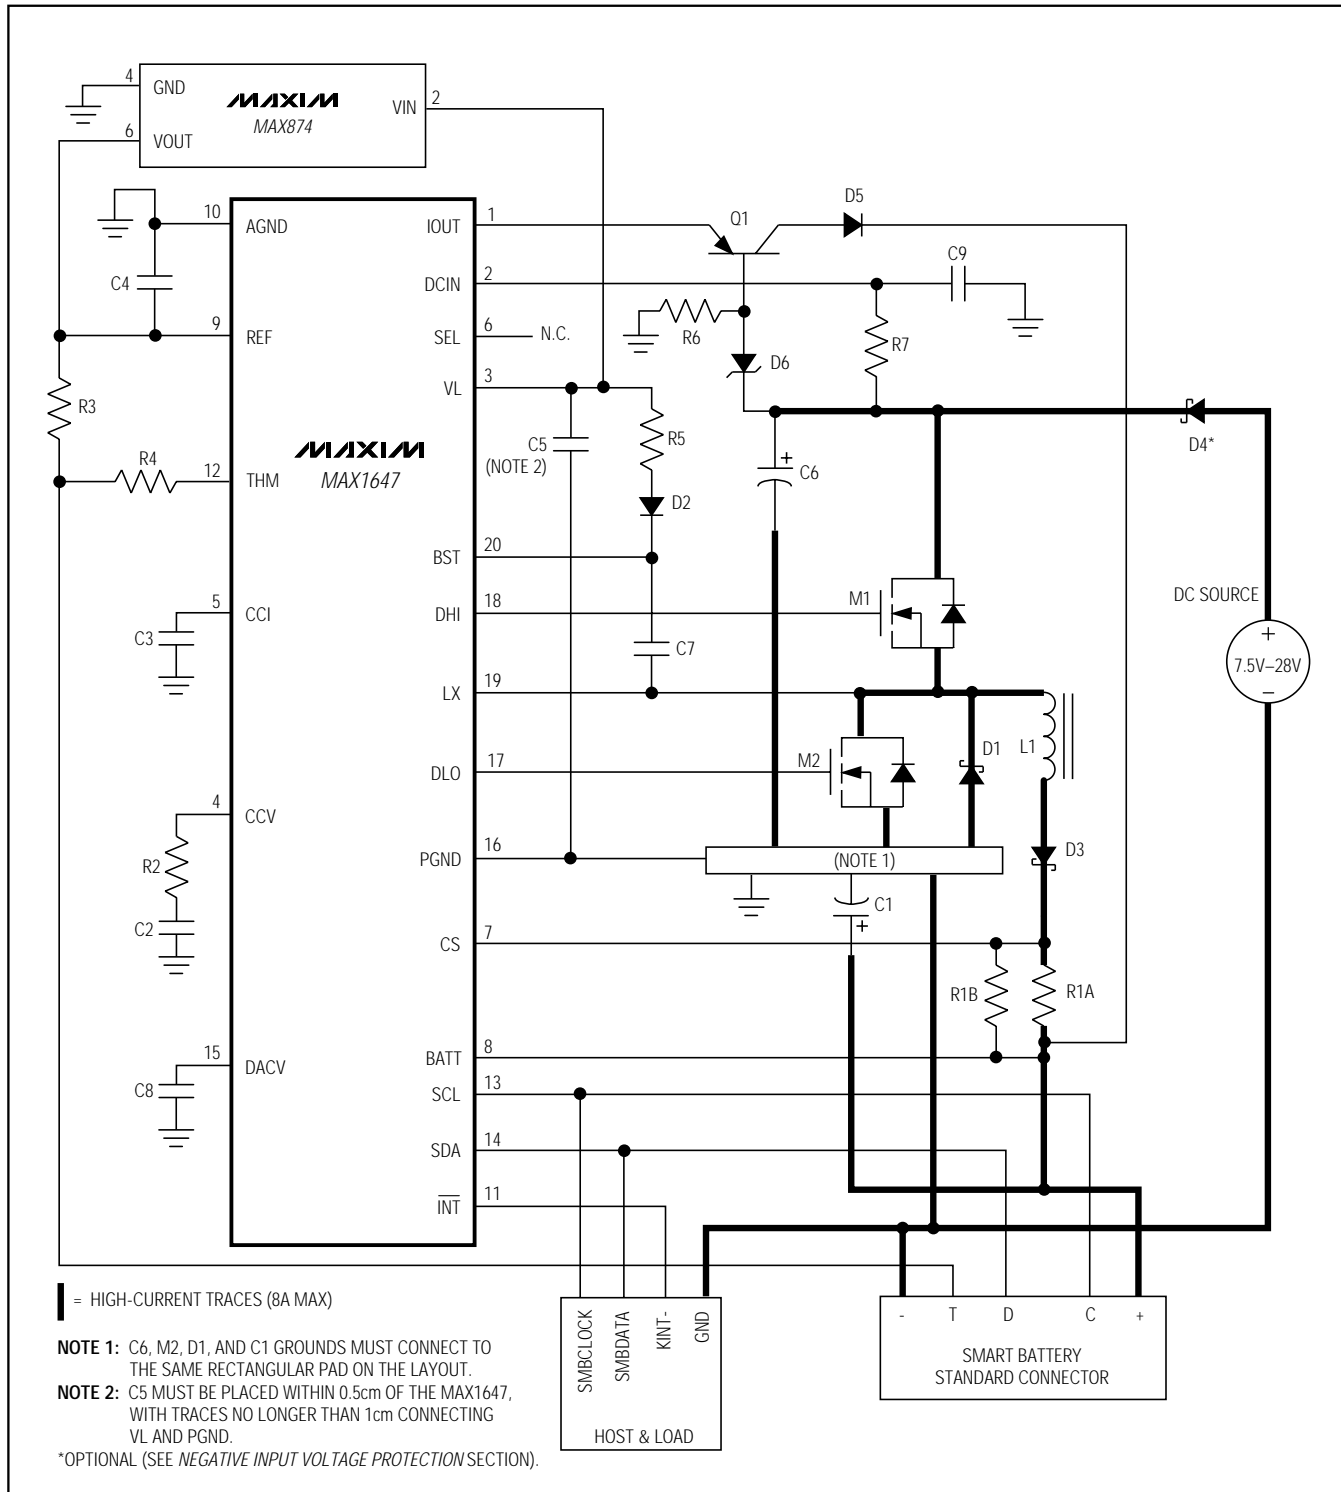
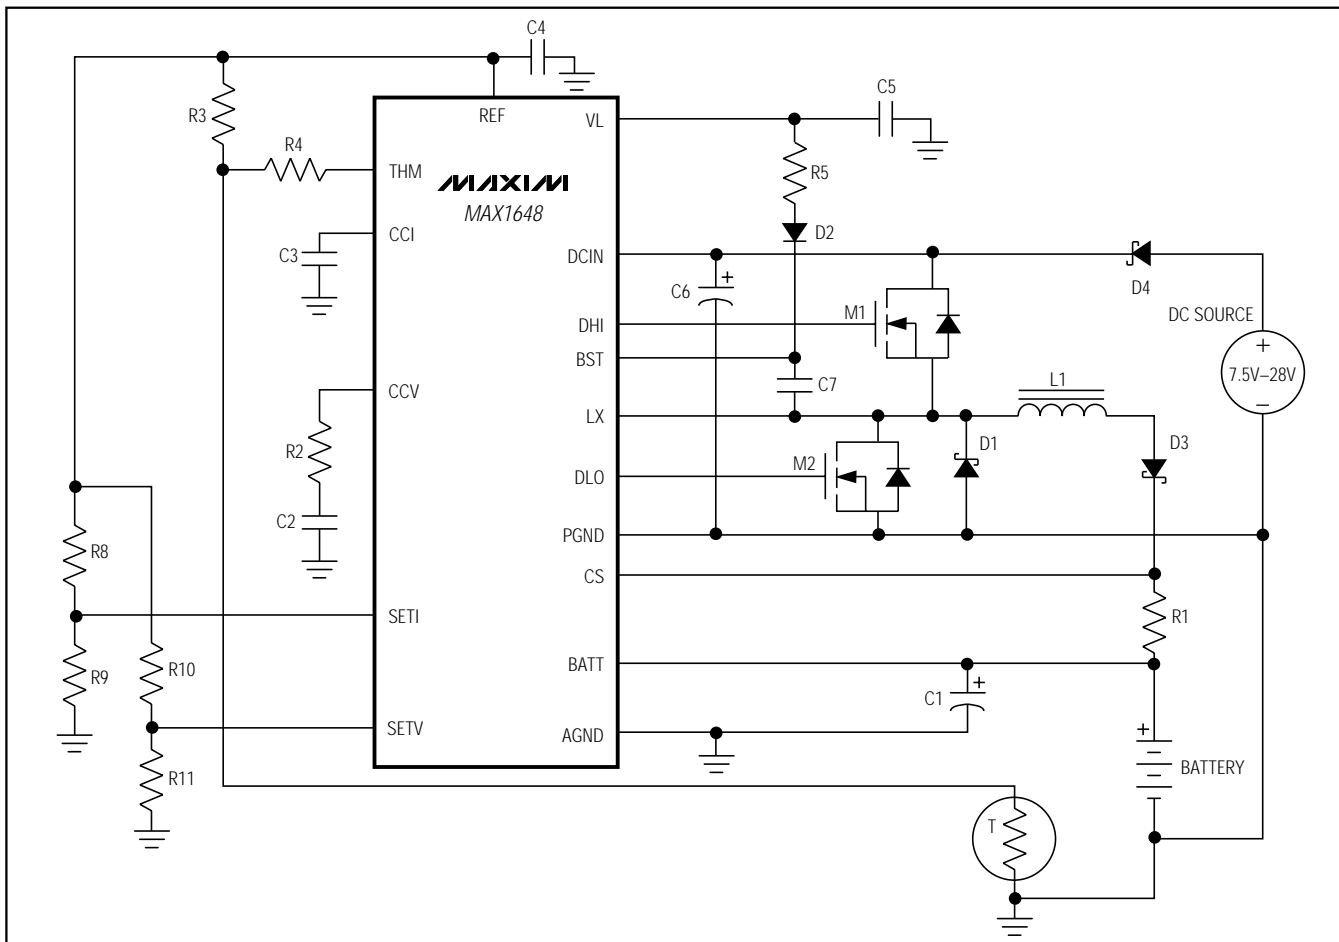
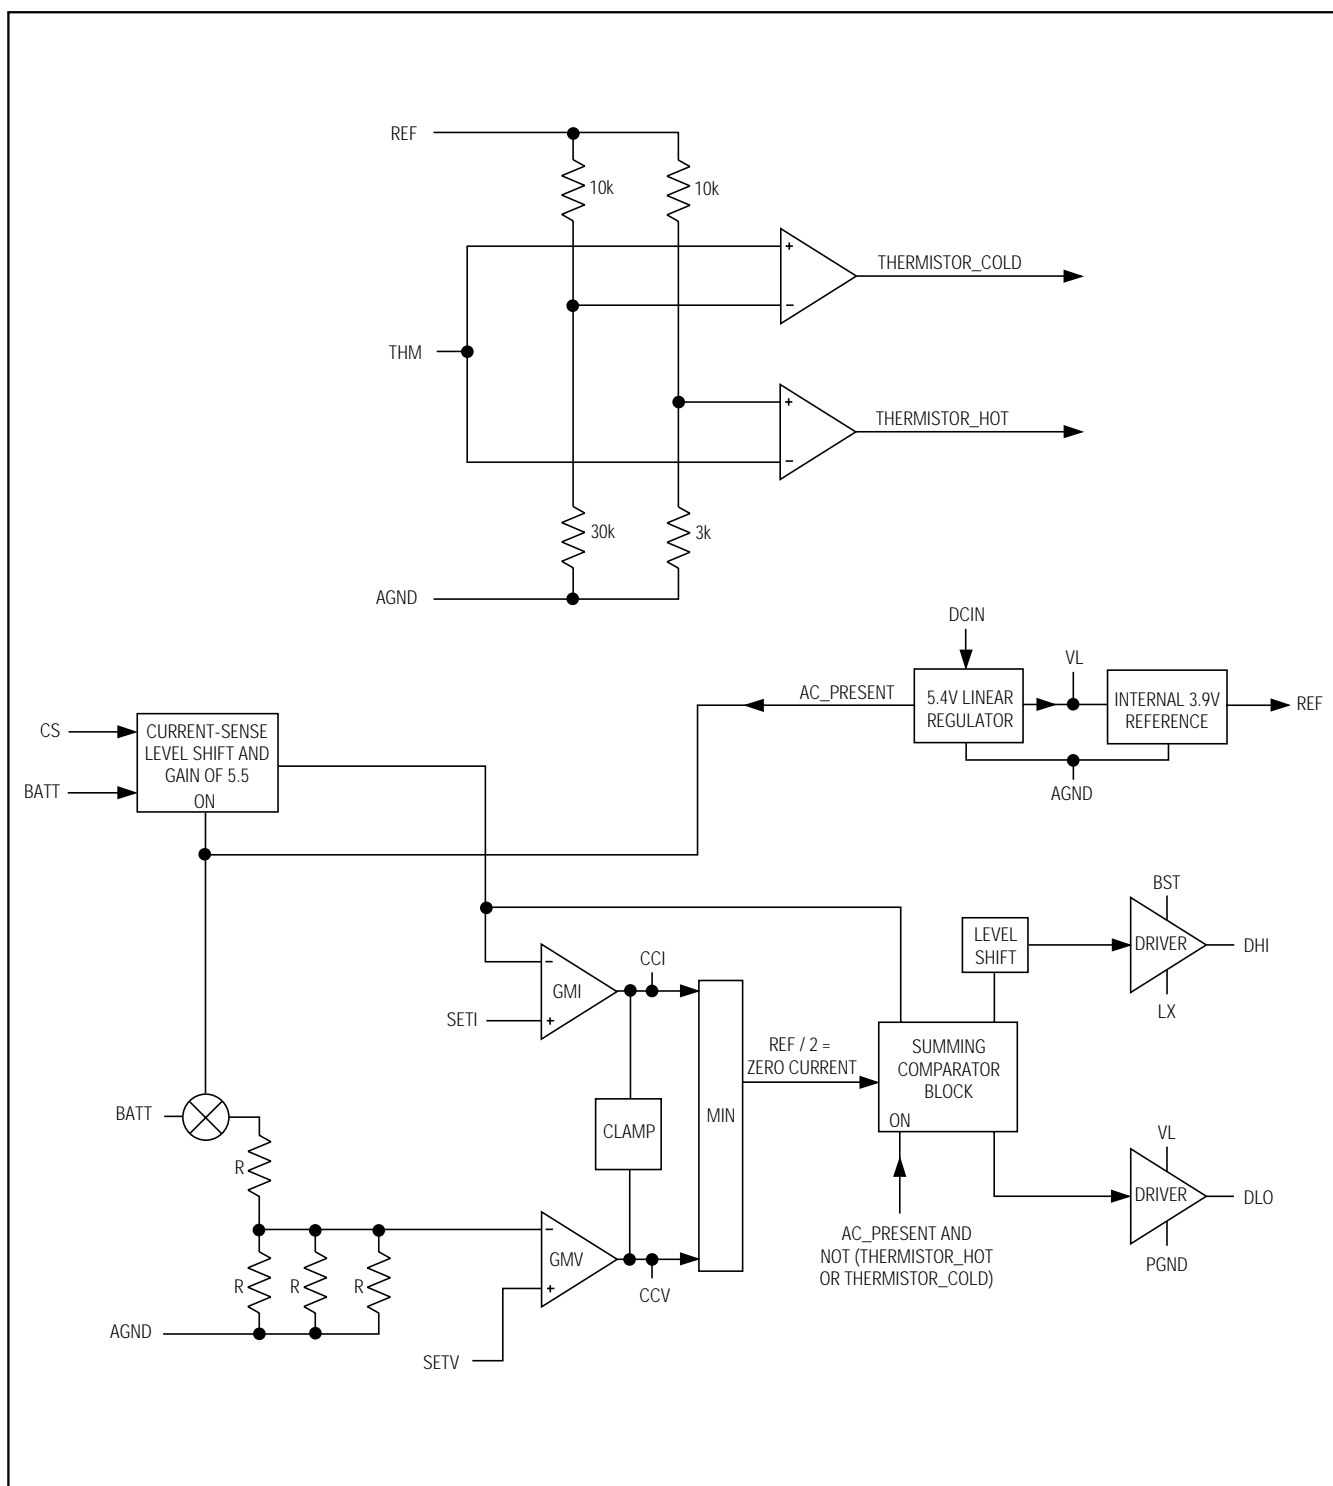

Figure 3. MAX1647 Typical Application Circuit
Figure 4. MAX1648 Typical Operating Circuit
Figure 6b. MAX1648 Block Diagram
(Circuit of Figure 3,  $T_A = +25^\circ\text{C}$ , unless otherwise noted.)
**Table 1a. Component Selection for Figure 3 Circuit (Also Use for Figure 4)**
Set the MAX1648's voltage- and current-limit set points (V0 and IO, respectively) using external resistive dividers. Figure 6b is the MAX1648 block diagram. V0 equals four times the voltage on the SETV pin. IO equals the voltage on SETI divided by 5.5, divided by R1 (Figure 4).
At heavy loads, the PWM controller switches at a fixed frequency and modulates the duty cycle to control the battery voltage or current. At light loads, the DC current through the inductor is not sufficient to prevent the current from going negative through the synchronous rectifier (Figure 3, M2). The controller monitors the current through the sense resistor  $R_{SEN}$ ; when it drops to zero, the synchronous rectifier turns off to prevent negative current flow.
The MAX1647 drives external N-channel MOSFETs to regulate battery voltage or current. Since the high-side N-channel MOSFET's gate must be driven to a voltage higher than the input source voltage, a charge pump is used to generate such a voltage. The capacitor C7 (Figure 3) charges to approximately 5V through D2 when the synchronous rectifier turns on. Since one side of C7 is connected to the LX pin (the source of M1), the high-side driver (DHI) can drive the gate up to the voltage at BST, which is greater than the input voltage, when the high-side MOSFET turns on.